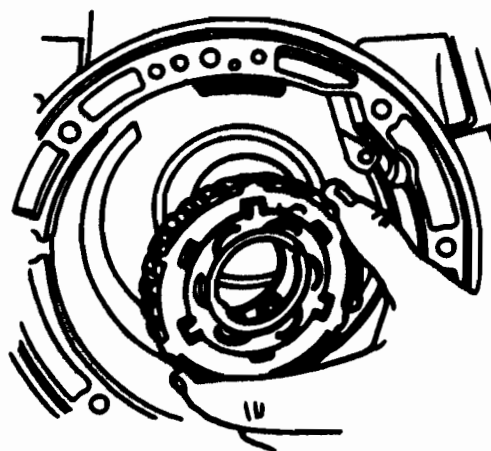

Figure 27
- (2) **REVERSE DRUM** - The 1st design Reverse Drum contains the *low roller clutch* and has the "Castles" on the front of the drum to accept the 10 lug, 4 pinion steel rear carrier, as shown in Figure 27.
The 2nd design Reverse Drum contains the *low sprag clutch* and is machined to accept the multiple lug, 6 pinion steel rear carrier for the 4.0L models, as shown in Figure 27.